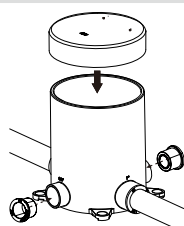

Fig. 6
5. Attach the concrete cover and seal any vacant holes with solvent-cemented plugs provided. (Fig.6)